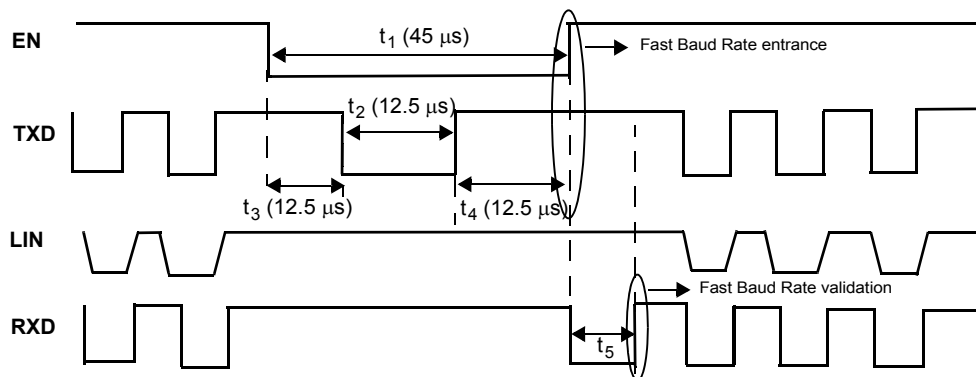

Figure 19. Fast Baud Rate Selection (Toggle Function) for LIN1 or LIN2
- 30. See Figures 19 and 20
For each LIN Module, the Fast Baud Rate selection is reported by the RXD pin. Fast Baud Rate is activated by the toggle function (See Figure 19). At the end of the toggle function, just after EN rising edge, RXD pin is kept low for t_5 to flag the Fast Baud Rate entry (See Figure 19).
A combination of the logic levels on EN1 (EN2) and TXD1 (TXD2) pins allows the device to enter in Fast Baud Rate mode of operation (see Figure 19).
The LIN Module enters into the fast baud rate if the delay between step 1 to step 5 is 45 μ s maximum. The toggle function is described in Figures 19. Once in fast baud rate, the same toggle function just described previously is used to bring the LIN Module 1 back into normal baud rate.
Fast baud rate selection is reported to the MCU by the RXD1 pin. Once the LIN Module 1 enters in this fast baud rate, the RXD1 pin goes at low level for t_{ξ} . When LIN Module 1 returns to normal baud rate with the same toggle function, the RXD1 pin stays high. Both sequences are illustrated in Figures 19 and 20.